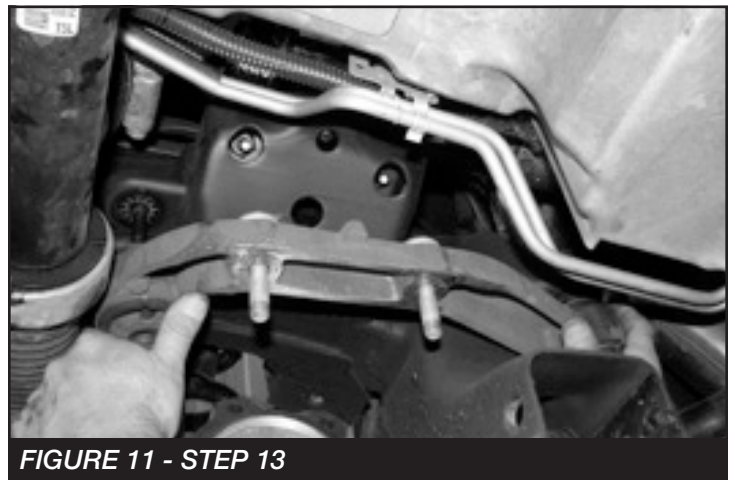

FIGURE 11 - STEP 13
13. Locate the factory passenger side diff mount and remove. **SEE FIGURE 11**